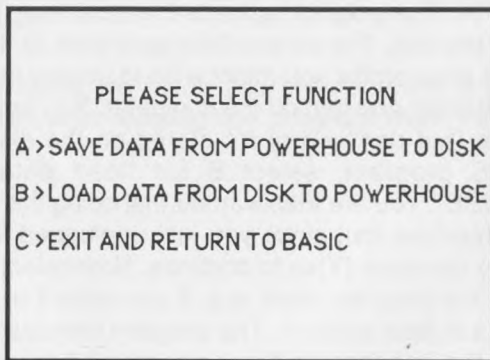

Figure 26.
To save the contents of the POWERHOUSE interface onto the POWERHOUSE disk you must first load the SCHEDULES program. To do this type **LOAD "SCHEDULES"**,8 and then press RETURN. Then type **RUN** and press RETURN. This will allow you to save your schedules onto the POWERHOUSE disk and retrieve them later. You might for example wish to have a Summer schedule and a Winter schedule. Three different schedules can be saved on the disk, in areas A, B and C. You can also make back-up copies of your POWERHOUSE program and save more schedules onto different disks. Figure 26 gives you the choice of saving schedules **to** disk, loading schedules **from** disk or returning to BASIC (to re-load the POWERHOUSE program).
Each schedule can be given a name of up to 8 letters so type in the name you wish to give the schedule, for example **Winter**. Then press RETURN. The program uploads the data from the interface and saves it onto the disk. The screen then goes back to the one shown in Figure 26. As an exercise you might wish to unplug the interface (with no battery installed) and turn off the computer. You have now lost all of your program (but don't worry it's stored on the disk). Re-load the SCHEDULES program, select B for "load data from disk to POWERHOUSE". You are then warned that doing this will erase all the data in the interface (but since you just unplugged it there isn't any data to loose) so select (Y)es to continue. Now select which area you want to load the program from, e.g. if you stored a schedule called Winter in area A then select A. The program then loads the data from the disk into the interface and you are advised to wait as this could take up to 4 minutes depending on the size of the schedule you saved. You may now choose C to return to BASIC and then load the POWERHOUSE program. Now select OPERATE mode and check that all of your data has been re-loaded into the interface.